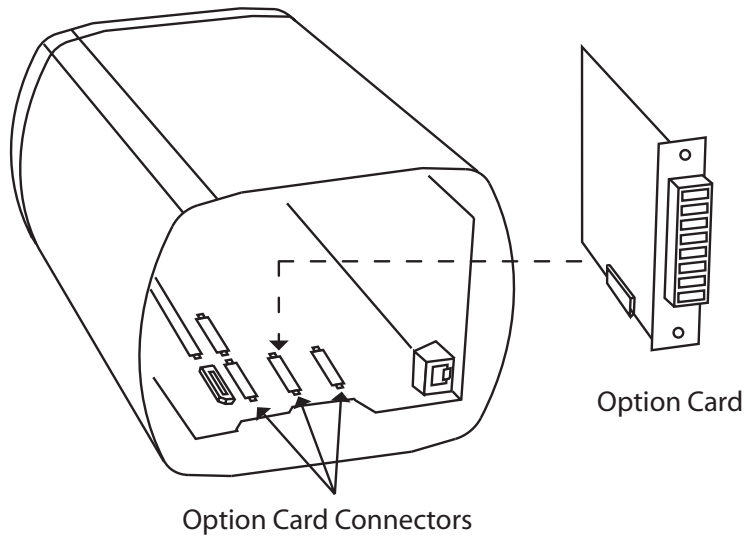

Figure 2-4 Back of Camera with Back Plate Removed
4. Place the Pan / Tilt option card in the housing with the 20-pin connector toward the camera option card connectors (figure 2-4).